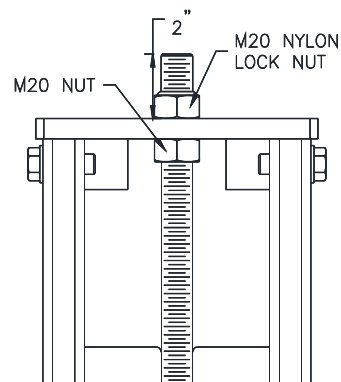

Fig 14 – Lock Ladder Assembly
- 21) Adjust the lock ladder so about 2" remains sticking out of the top. Tighten both bolts as shown in **Fig 14** when ladder is properly orientated. Note: When adjusting the lock ladder it may be necessary to loosen or remove the bolts holding the top cap to the column so the bottom nut can be adjusted.